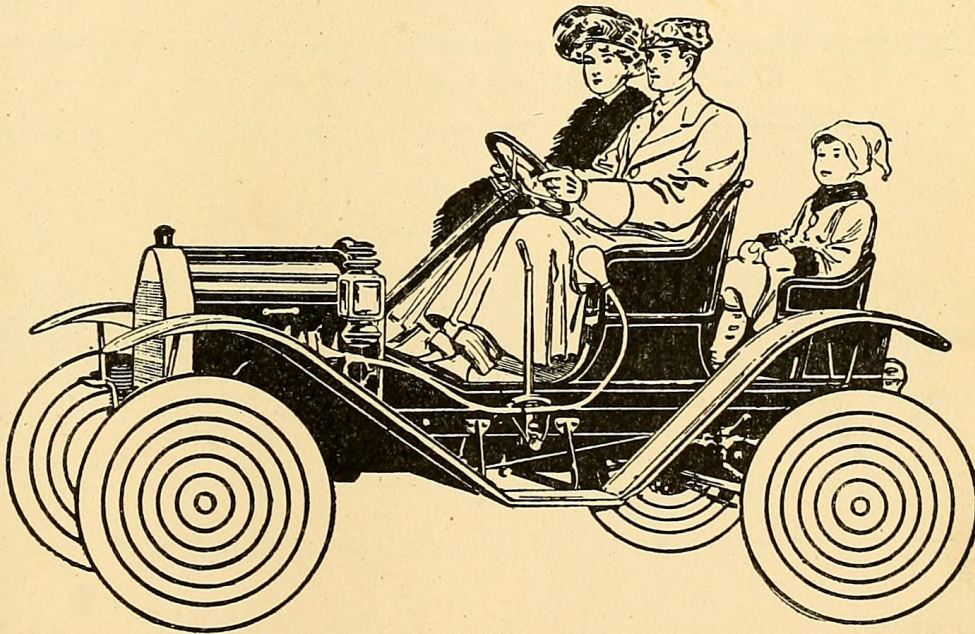

FIG. 357. — Give the Book a Circular Motion and see the Automobile Run.
**The Automobile.** Figure 357 shows a modern adaptation of an old form of optical illusion. Give the book
upon a piece of cardboard, then preparing two circular disks of the same size as the wheels with a series of concentric circles inscribed upon them as shown in Fig. 357, and pasting these over the printed wheels, you will have this optical illusion in a more convenient form to handle